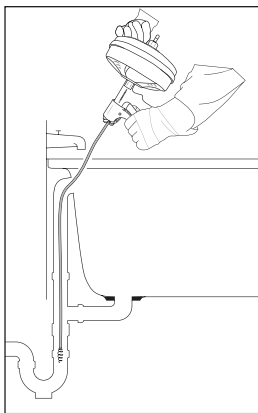

Fig. 2
- Never route the spiral **8** through the drain in bathtubs. This will damage the spiral **8**. Always use the overflow instead (see Fig. 2).